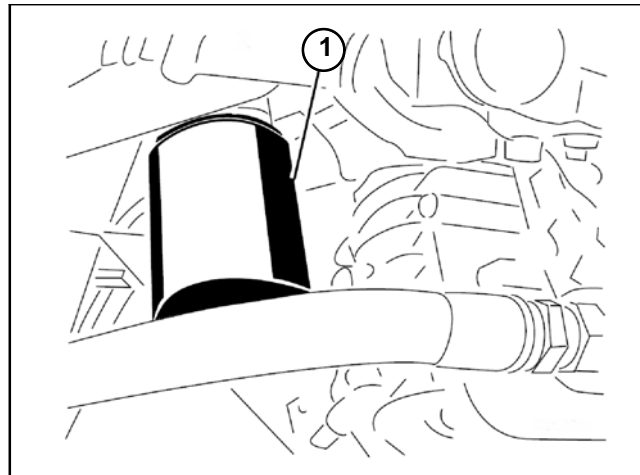

Figure 16
2. Clean area around filter mounting area (Fig. 16). Remove filter and drain filter into a suitable container. Discard filter.